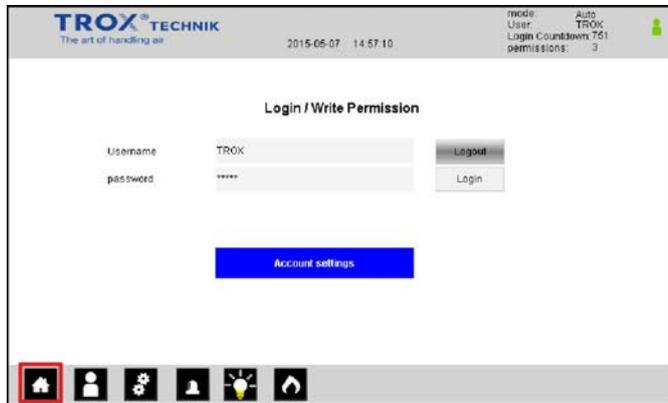

Fig. 27: Opening the system overview screen, variant 1
- ▶ Once you are logged in, press  (Fig. 27).